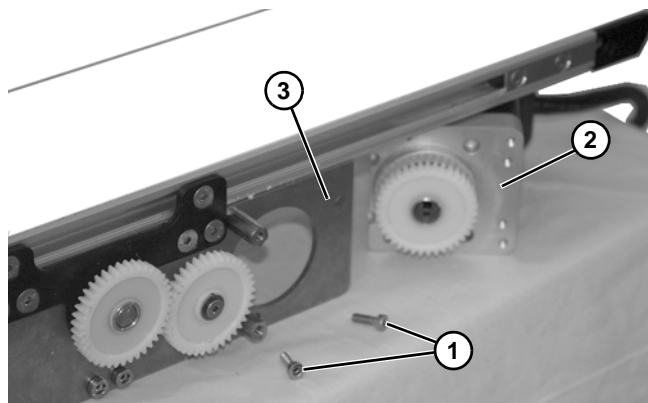

Figure 31
9. Remove two screws (**Figure 31, item 1**) from gearmotor.
10. Remove gearmotor (**Figure 31, item 2**) from mounting plate (**Figure 31, item 3**).